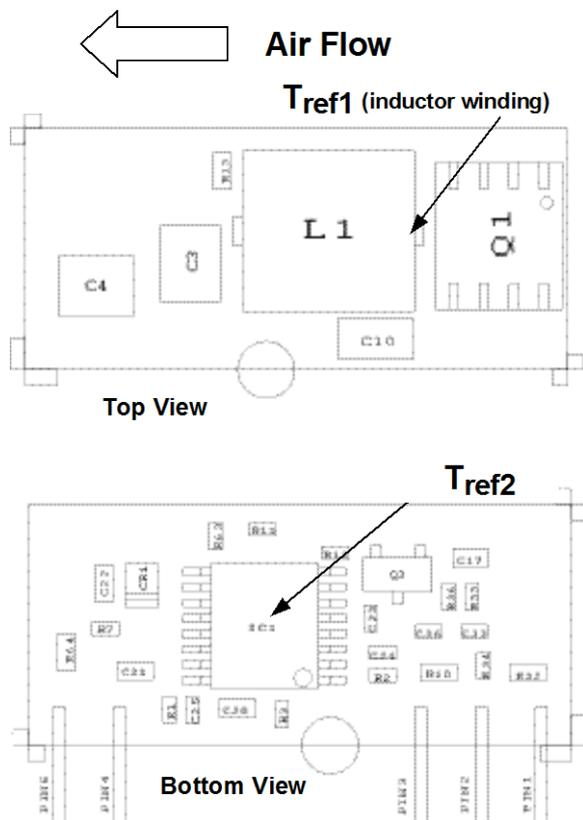
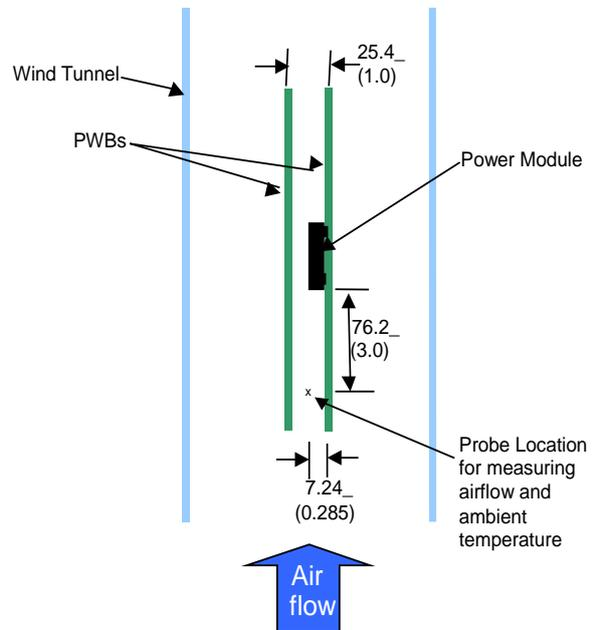

Figure 32. T_{ref} Temperature measurement location.
Figure 33. Thermal Test Set-up.
Considerations include ambient temperature, airflow, module power dissipation, and the need for increased reliability. A reduction in the operating temperature of the module will result in an increase in reliability. The thermal data presented here is based on physical measurements taken in a wind tunnel. The test set-up is shown in Figure 33. Note that the airflow is parallel to the long axis of the module as shown in figure 32. The derating data applies to airflow in either direction of the module's long axis.
The thermal reference point, T_{ref 1} used in the specifications of thermal derating curves is shown in Figure 32. For reliable operation this temperature should not exceed 125°C. The output power of the module should not exceed the rated power of the module (V_{o,set} x I_{o,max}).